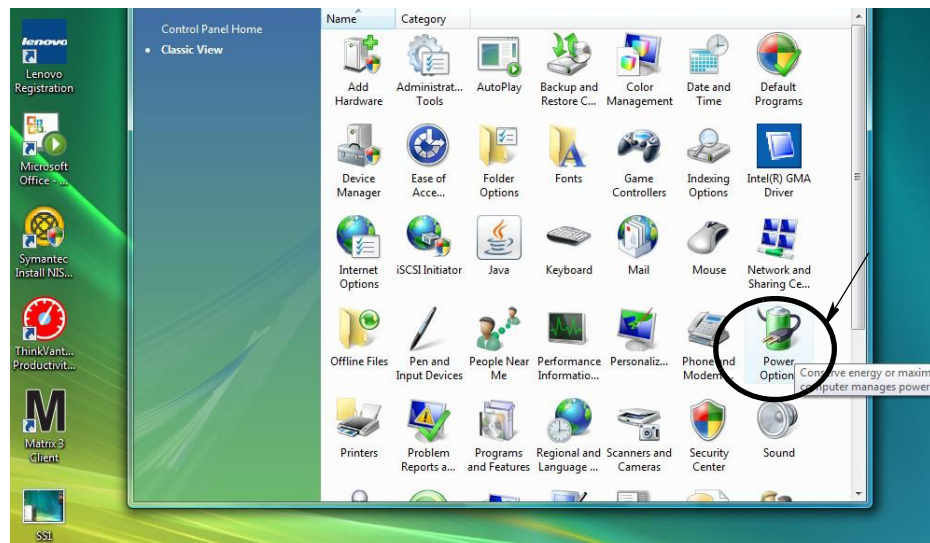

FIG. 47
2. Select the Power Options Icon (FIG. 47).